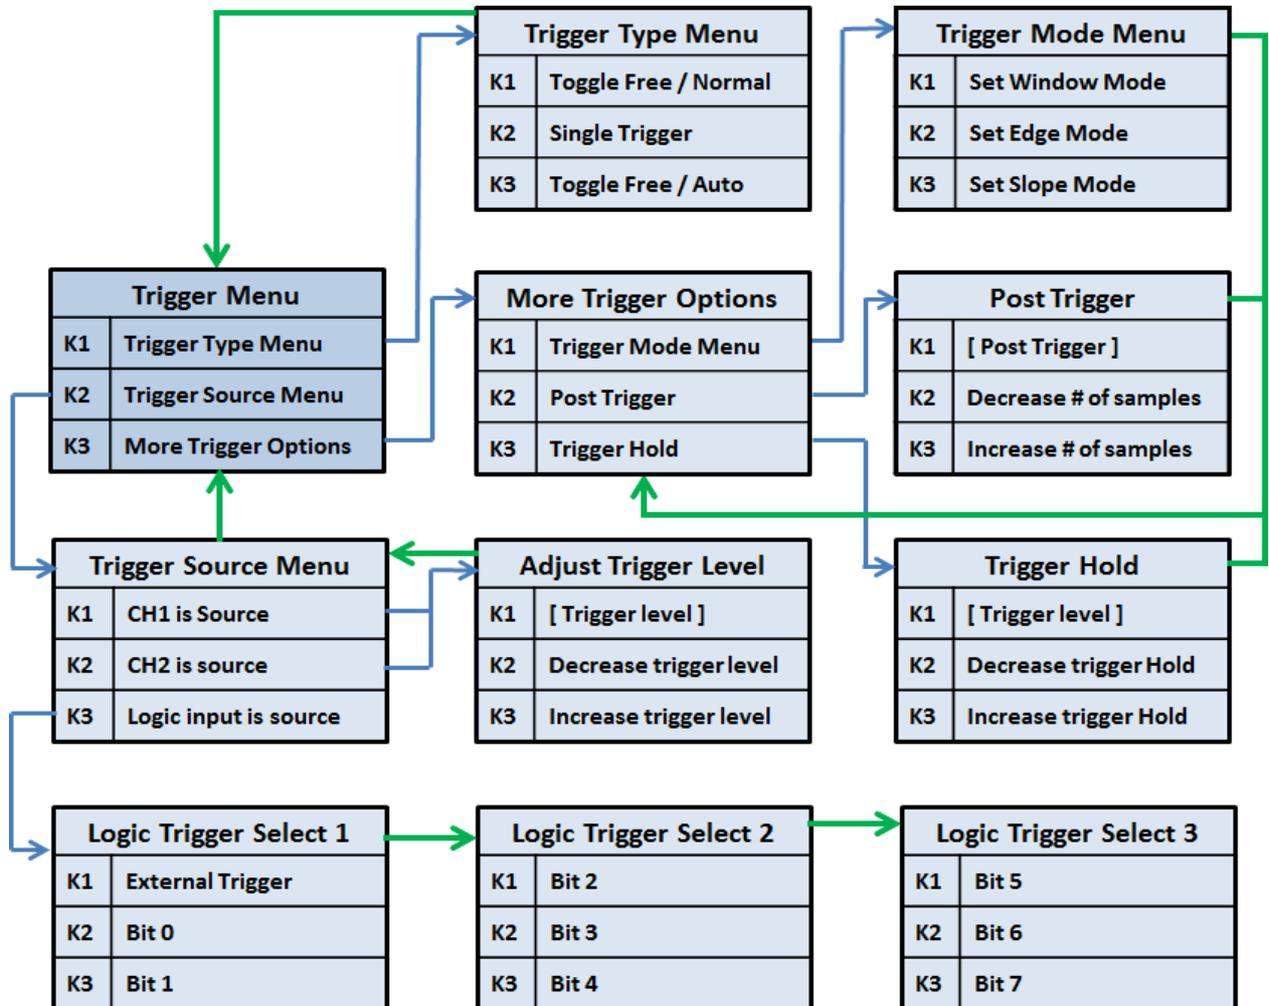

Figure 39: Trigger menus
*Mi* has an advance triggering system, it has most of the trigger controls of a professional oscilloscope. Figure 39 shows the trigger menus.